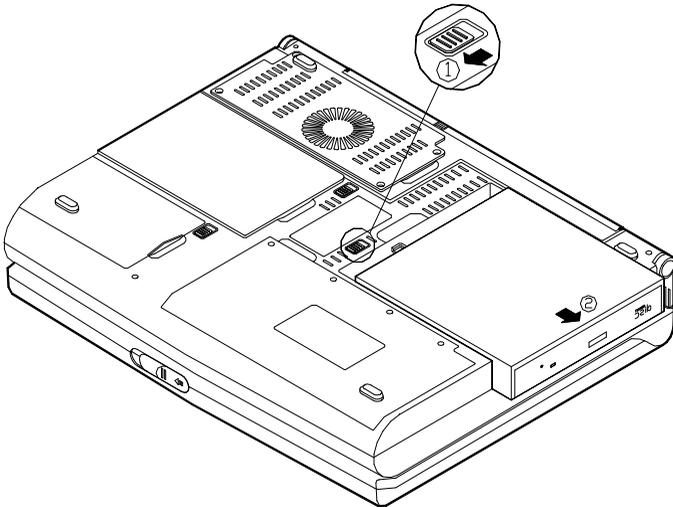

Figure 2-13
- 3** Press the CD-ROM-drive latch (do ①) and pull the CD-ROM module out of the computer (do ②) (Figure 2-13).